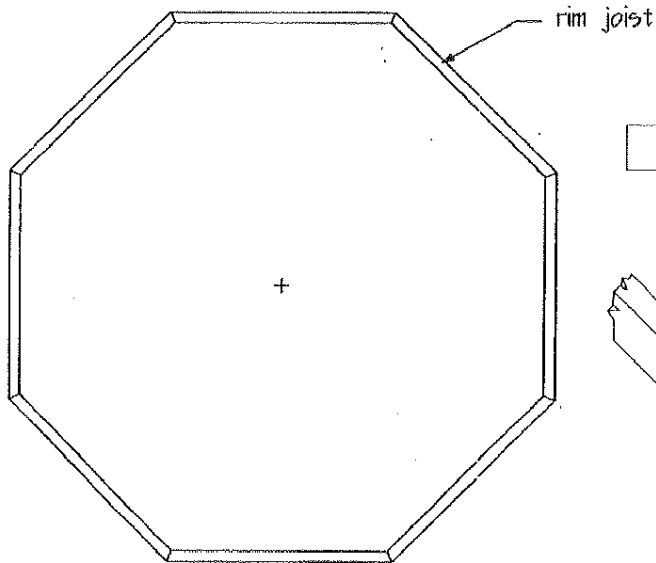

FIGURE B1
1. Place the 8 rim joists in an octagon shape, as shown in **Figure B1**.